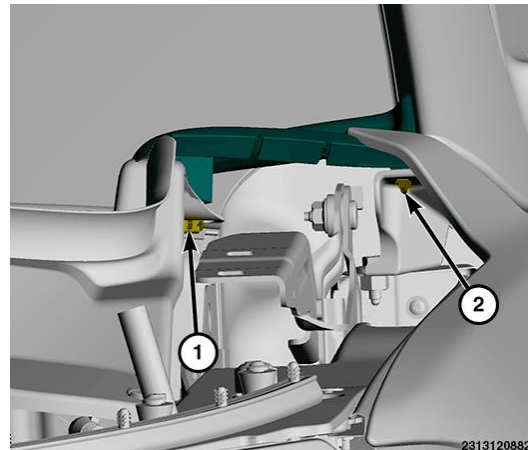

Figure 14 – Cowl End Cap Clip
30. Using a C-4755 or equivalent, release the outer clip (2) from under the rear edge of the fender. (Figure 14).
31. Release the inner clip (1) and separate the cowl end cap (Figure 14).